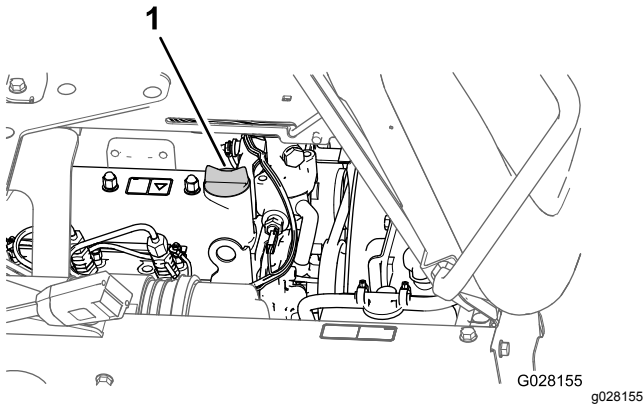

Figure 52
5. Remove the oil filler cap from filler neck of the valve cover of the engine (Figure 52) and slowly pour approximately 80% of the specified amount of oil into filler neck.
8. Install the oil filler cap into the filler neck (Figure 52).